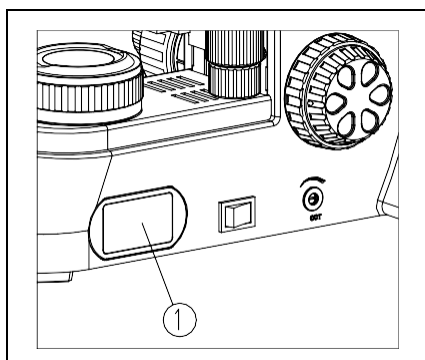
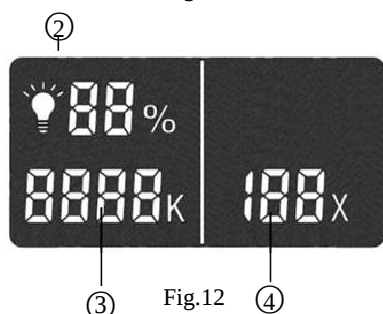

Fig. 11
Fig. 12
The LCD screen displays the current illumination brightness, color temperature, and objective magnification values. (See Fig. 11)
In Fig. 11, the enlargement at ① is as shown in Fig. 12, ② shows the current illumination brightness; ③ shows the color temperature value; ④ shows the objective magnification value.